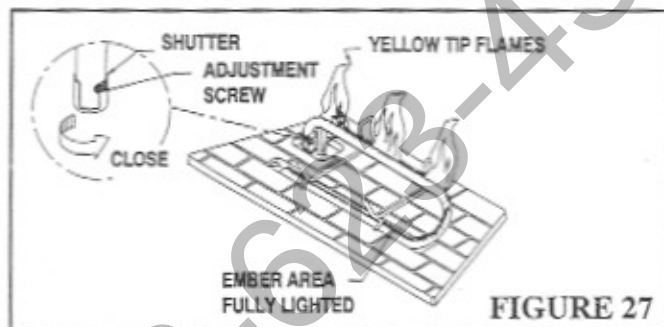

FIGURE 27
9. Periodically perform a visual check of your appliance's flame pattern. Refer to Figure 27 below.
Remove the logs to expose the burner, then loosen the air shutter screw and rotate the shutter to the left or right as needed while watching the flame on the burner to achieve a yellowish flame. Once it is esthetically acceptable, not too dark not too light, retighten the air shutter screw. (See figure 27). To reposition the logs, follow the instructions on page 8.
- Periodically perform a visual check of your appliance's flame pattern. Refer to Figure 27 on page 11.